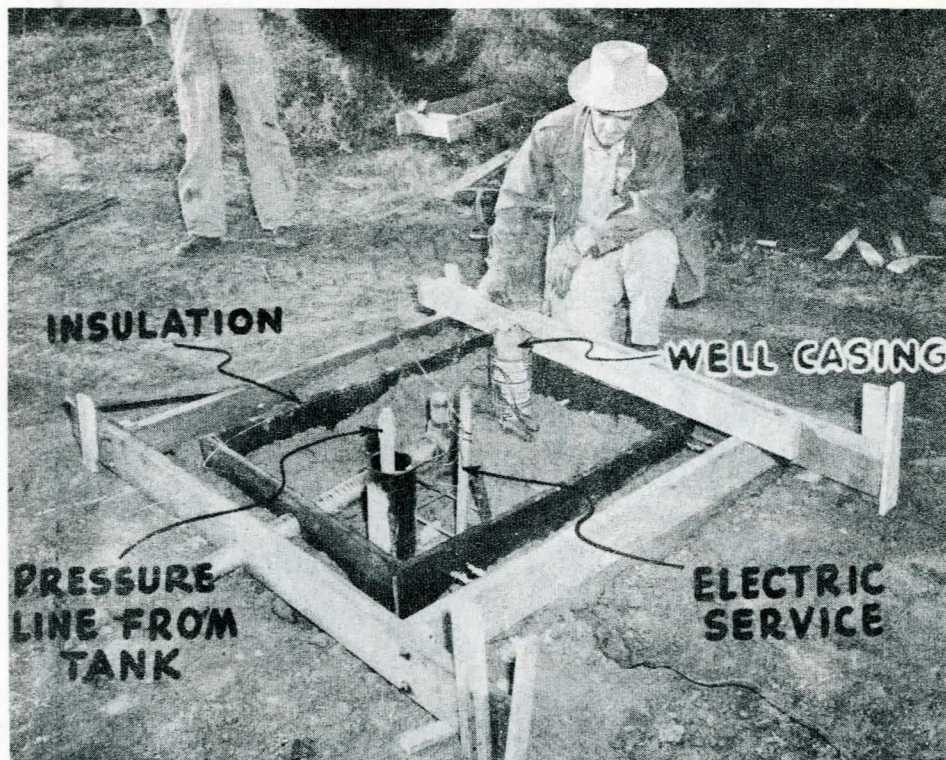

Figure No. 6 View showing forms staked in place and concrete being placed.
8. Platform forms can be built of 2" x 6" material. Construct as shown in Figure No. 6 with dimensions as shown in Figure No. 4. This allows house to extend 1/2 inch beyond platform. Before assembling forms, make holes for hinge bolts, drain pipe, and tie-down straps. Holes in hinges should be drilled to 3/8 inch. Drain should discharge to south side of house. Thread outer end of drain pipe.